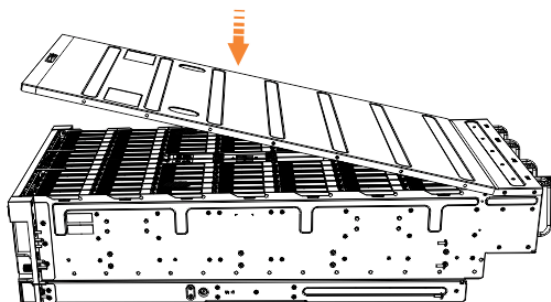

Figure 121. Aligning the top cover
6. Carefully lower the cover and ensure that it is aligned correctly with the back of the enclosure, as shown in Figure 121 on page 177.